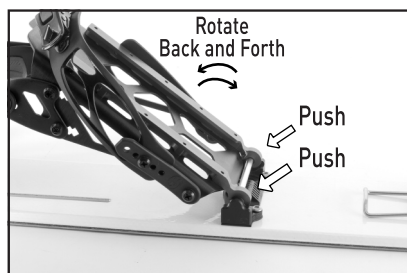

Figure 14
Unbuckle the Ankle Strap and Toe Cap. Push the straps and ladders off to the side of the binding and clear the Rail Hooks of any snow or ice. Flip the binding upside down and locate the Rail Hooks over the Speed Rail Touring Bracket. **(See Figure 14)**
*Firmly push down on the Rail Hooks until you feel both hooks snap over the pivot. Gently rotate the binding back and forth to fully seat the Speed Pivot into the Rail Hooks. **(See Figures 14 & 15)**